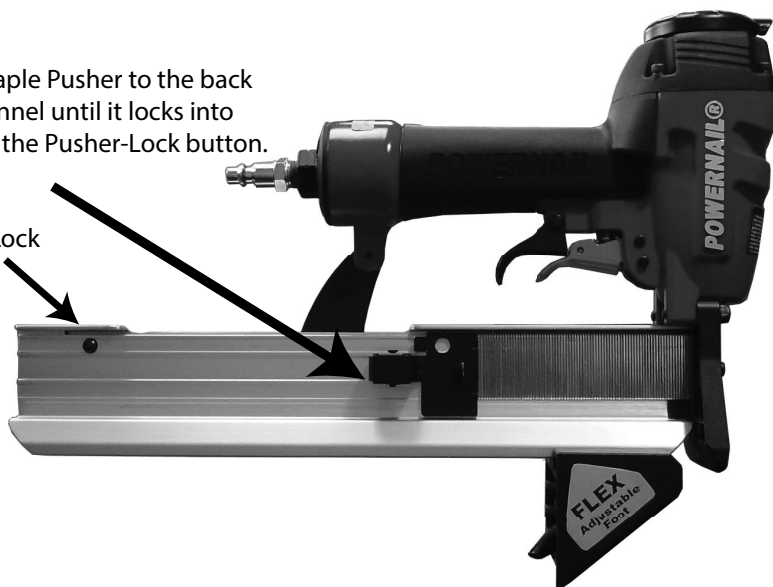

**Figure 3**
2. Place two (2) drops of air-tool oil in the air plug as shown (Figure 3). If you are using an automatic in-line oiler, check and add oil if necessary.